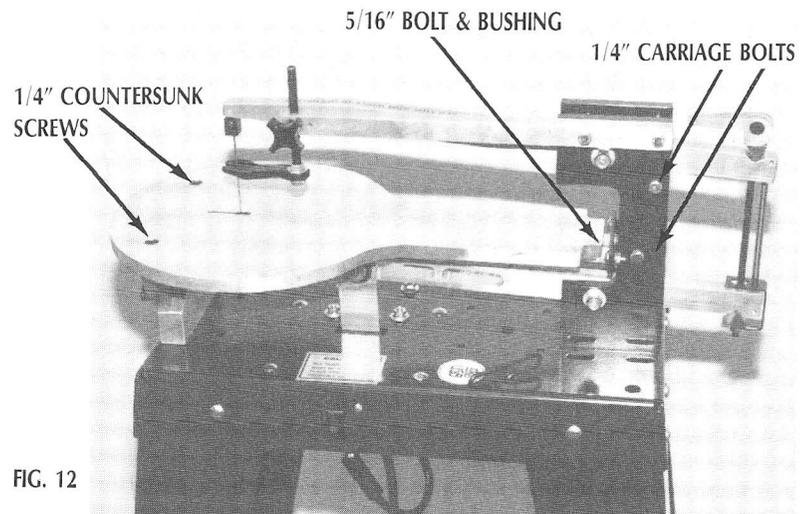

FIG. 12
3. Loosen and remove the two 1/4" countersunk HA-79 socket head screws located at the front of the table. (See Fig. 12)
4. With a 7/16" end wrench loosen and remove the hex nuts from the two 1/4" carriage bolts that connect the table pivot bracket (HA-10) to the rear mounting bracket (HA-08). (See Fig. 12)
7. Using a 1/2" end wrench loosen and remove the 5/16" bolt and bushing that connects the pivot bracket to the table. (See Fig. 12)